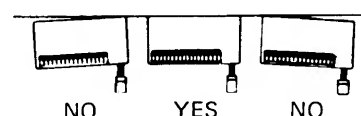

Fig. 11
b) Double check with a ruler or level that panel is level. This is important to install the unit properly. Fig. 11